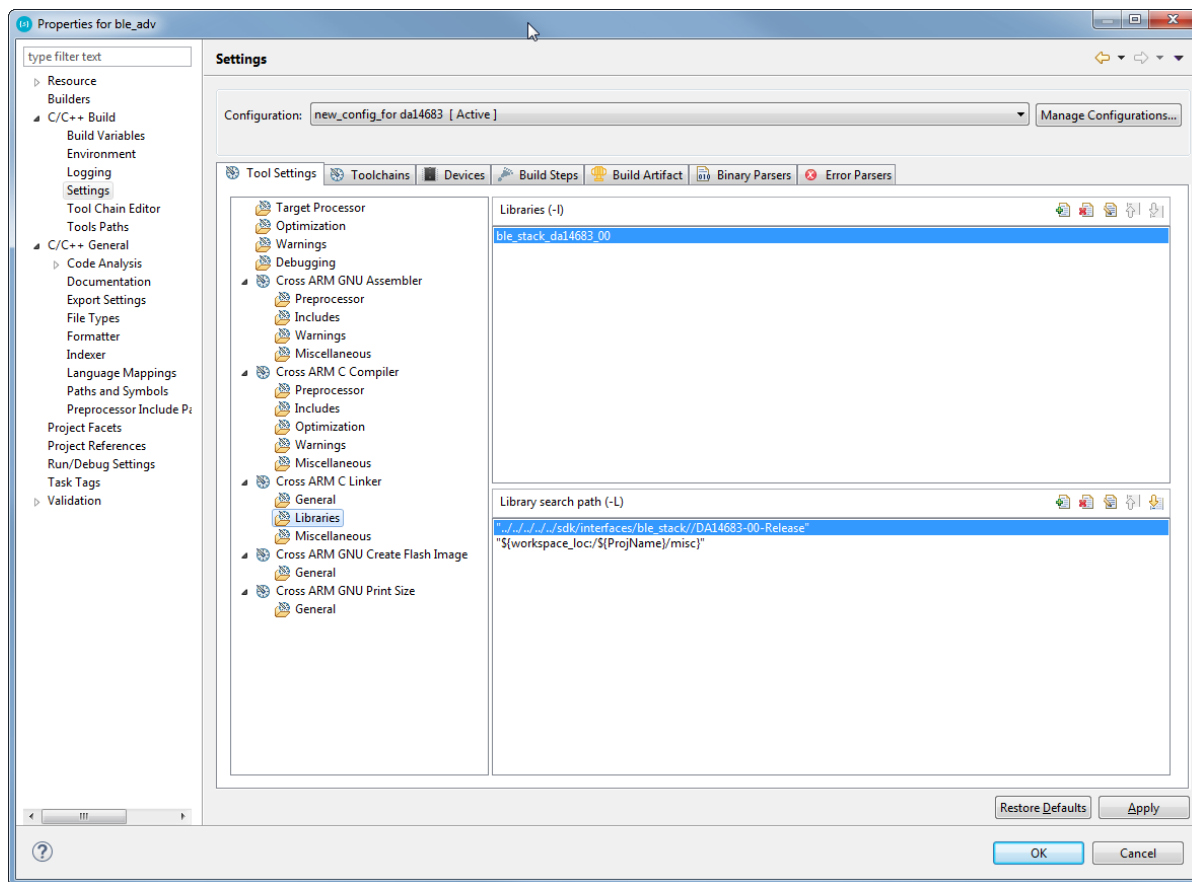

Figure 8: Edit linker configuration
- In the **Libraries** of the **Cross ARM C Linker**, edit the **libraries (-l)** and **Library search path (-L)** to point at the DA14683 SDK (Figure 8).